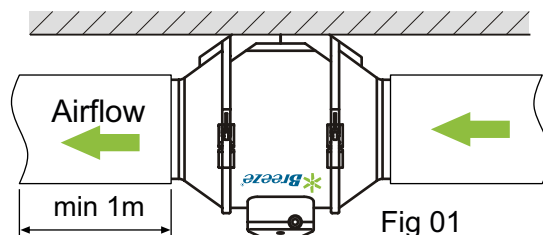
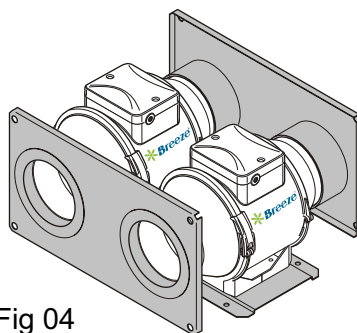

Fig 01
Fig 04
- The fan is suitable both for horizontal or vertical mounting on the wall or on the ceiling (Fig. 01- 03) as one unit or included into connected in parallel or in series sets (Fig. 04, 05).